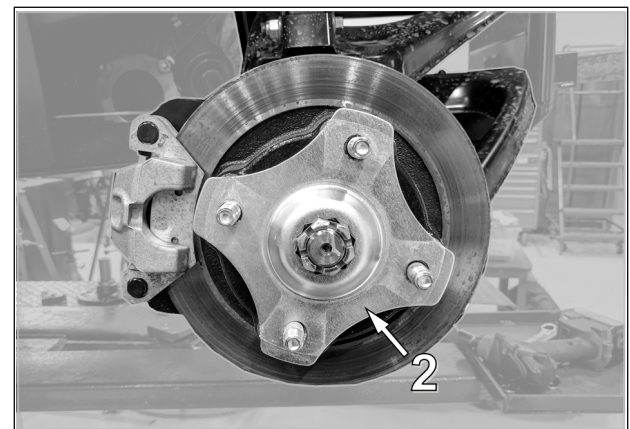

Fig. 10
CAUTION: Be sure to leave the vehicle's wheel spacers (2) in place before installing the track systems. See Fig. 10